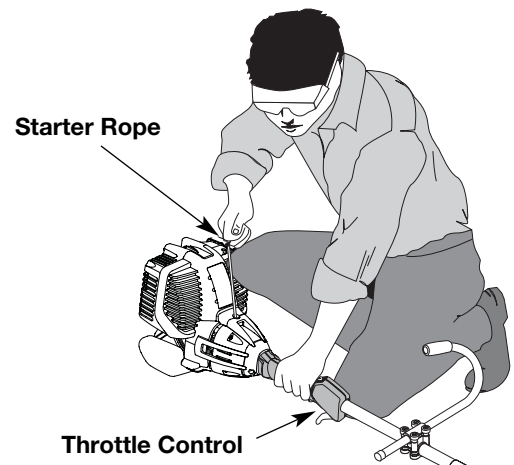

Fig. 13
**WARNING:** Avoid accidental starting. Make sure you are in the starting position when pulling the starter rope (Fig. 13). To avoid serious injury, the operator and unit must be in a stable position while starting. Make sure that any Add-On item is installed correctly and secure before starting the unit.
4. With the unit in the starting position, **do not squeeze the throttle control** (Fig. 13). Pull the starter rope out a short distance, until you feel some resistance. This is usually around 2-4 inches. Then pull the rope smoothly and briskly. Repeat this 5 times. The engine should start.